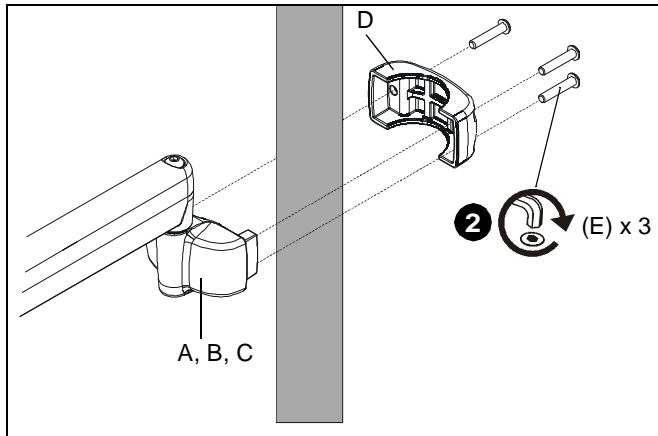

Figure 1
2. Place mount (A, B or C) against pole with clamp (D) on opposite side of pole (See Figure 1). Loosely assemble with screws (E) using hex key (N).